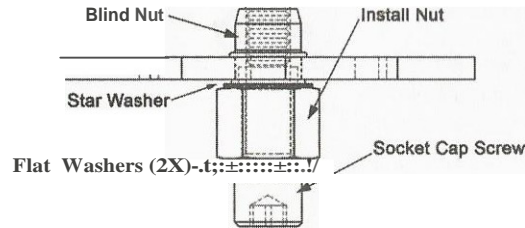
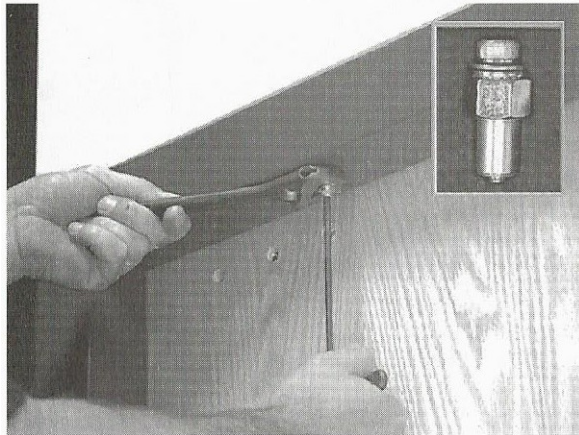
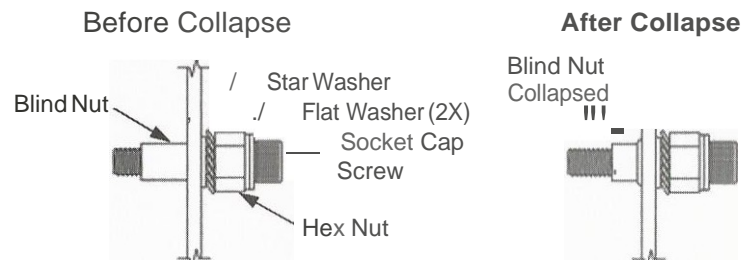

Figure 8. Blind Nut Components
Figure 9. Installing the Blind Nuts
Figure 10. Blind Nut Before and After Collapse
**NOTE:** Figure 8, "Blind Nut Components," Figure 9, "Installing the Blind Nuts," and Figure 10, "Blind Nut Before and After Collapse," provide illustration for the steps in this section.
- a. INSERT the assembled blind nut and installation tool into a mounting hole to install a blind nut into the 3/8" [9.5 mm] hole (see Figure 8).
- b. HOLD the install nut using a 1/2" [13 mm] box-end wrench and, at the same time, COLLAPSE the blind nut using a 3/16" [5.0 mm] hex wrench to turn the socket cap screw (see Figure 9).
- d. VERIFY that the blind nut is properly collapsed (see Figure 10).